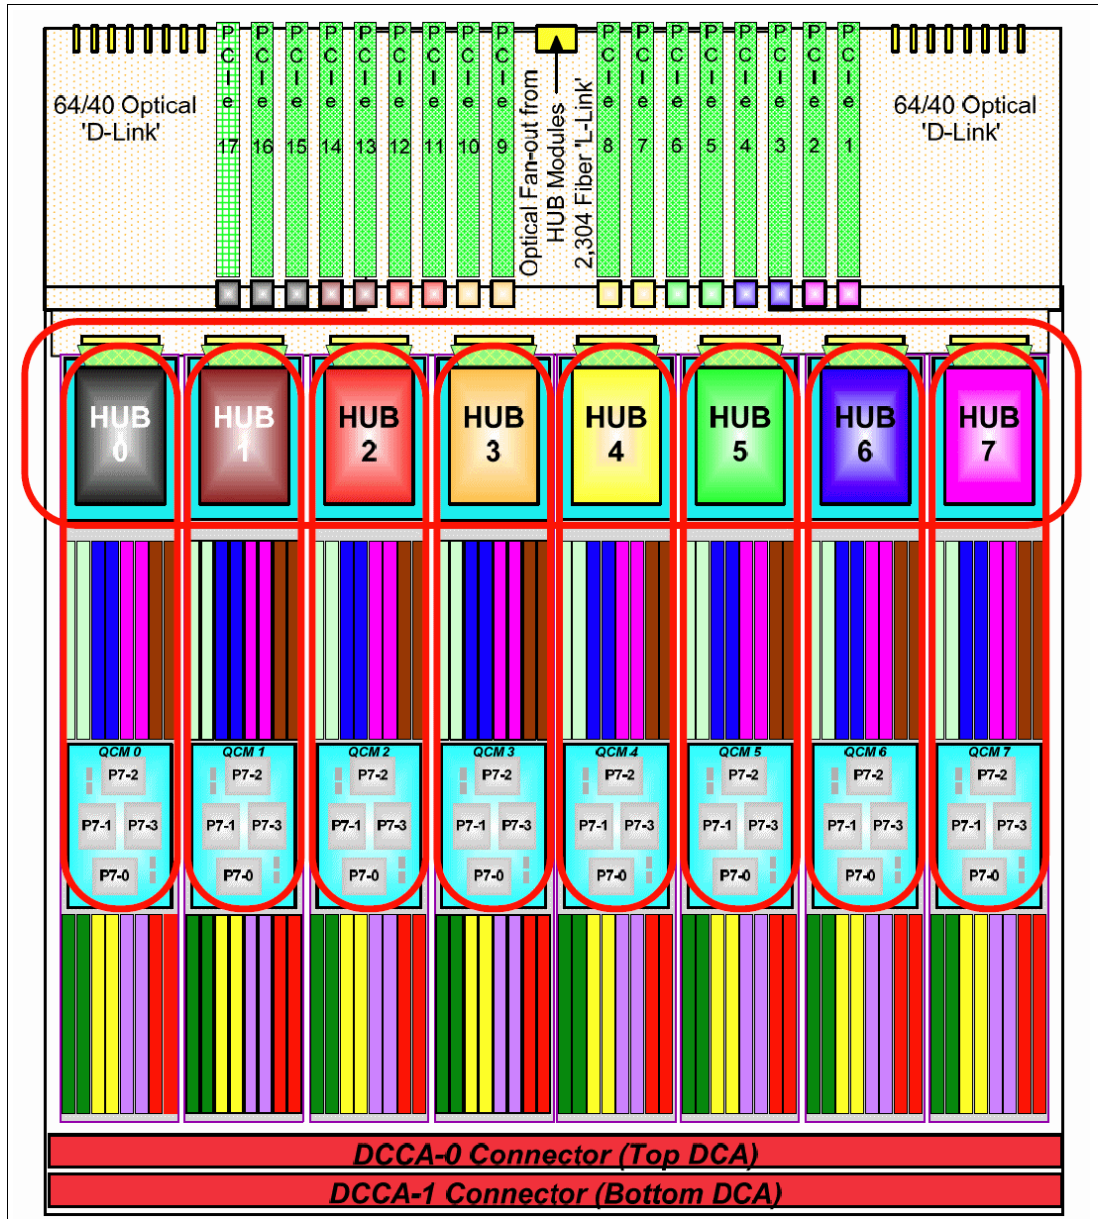

Figure 1-17 First level local interconnect (256 cores)
L Local (LL) connects the eight octants in the CEC drawer together via the HUB module by using copper board wiring. Every octant in the node is connected to every other octant, as shown in Figure 1-17.